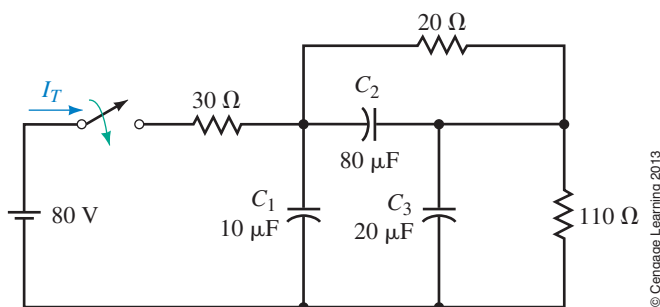

FIGURE 11-60
35. Determine the capacitor voltages and the source current for the circuit of Figure 11-60 after it has reached steady state.
53. For the circuit of Figure 11-60, use PSpice to determine and plot voltage and current waveforms for capacitors C_1 and C_3 , then from the waveforms, determine their steady state voltages and currents. Compare to the answers of Problem 35.